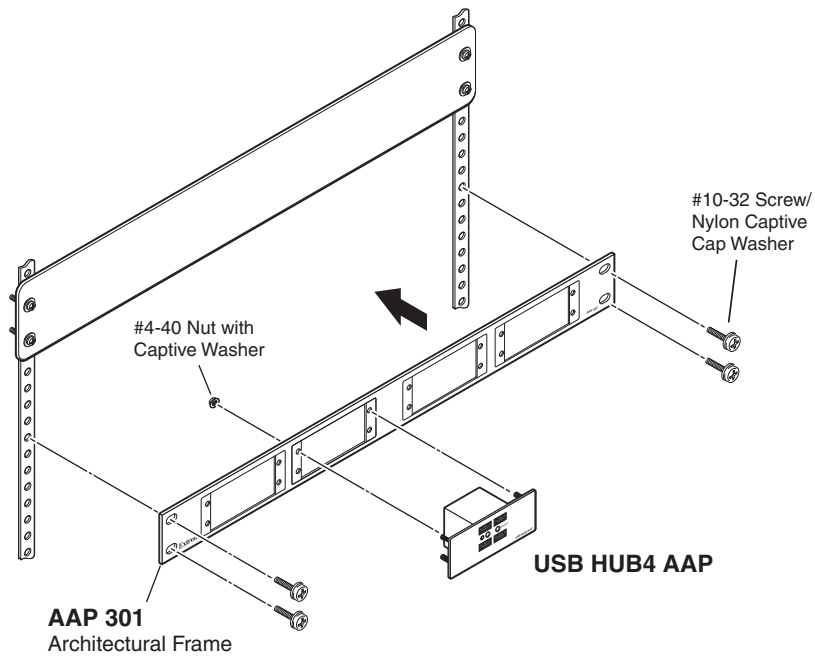
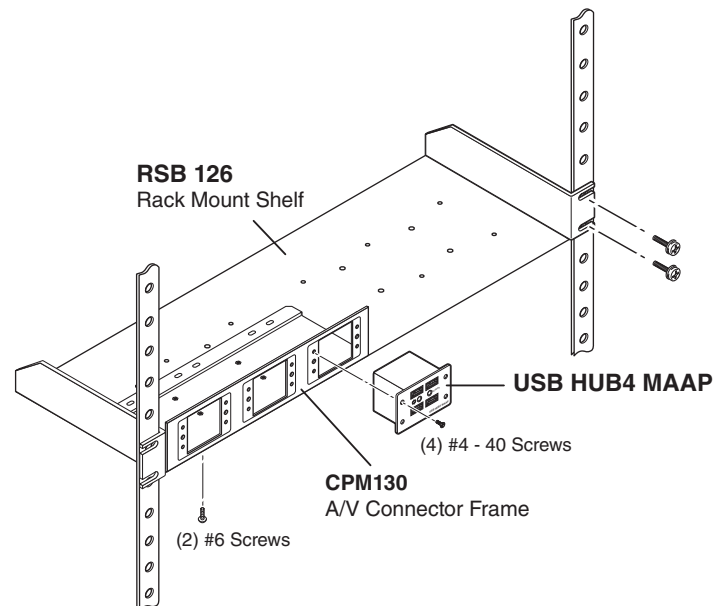

Figure 14. Mounting a USB HUB4 AAP Directly to a Rack Using an AAP 301 Frame
Figure 15. Mounting a USB HUB4 MAAP on a Rack Shelf Using a CPM133 Frame
2. Insert the HUB4 in one of the spaces in a rack architectural frame and attach it to the frame using the provided hex screws and nuts (see figure 14 and figure 15).